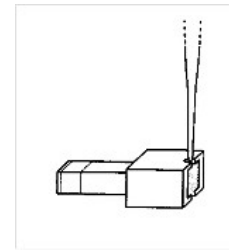

Fig. 9
5. Pre-set a pipettor to 50-60µl, and insert the capillary pipet tip (provided) through the hole in the membrane and gently push the tip downward [See Fig 9 and 11]. The capillary tip slides over the cutting edge (slope) of the punch. The tip pushes the wet membrane forward as it moves downward into the collection port.
6. Pipet out the DNA collected near the membrane with the capillary pipet tip (Fig.9). **Warning:** Do not pull out the Gel-PICK™; doing so will create a mess and sample loss.